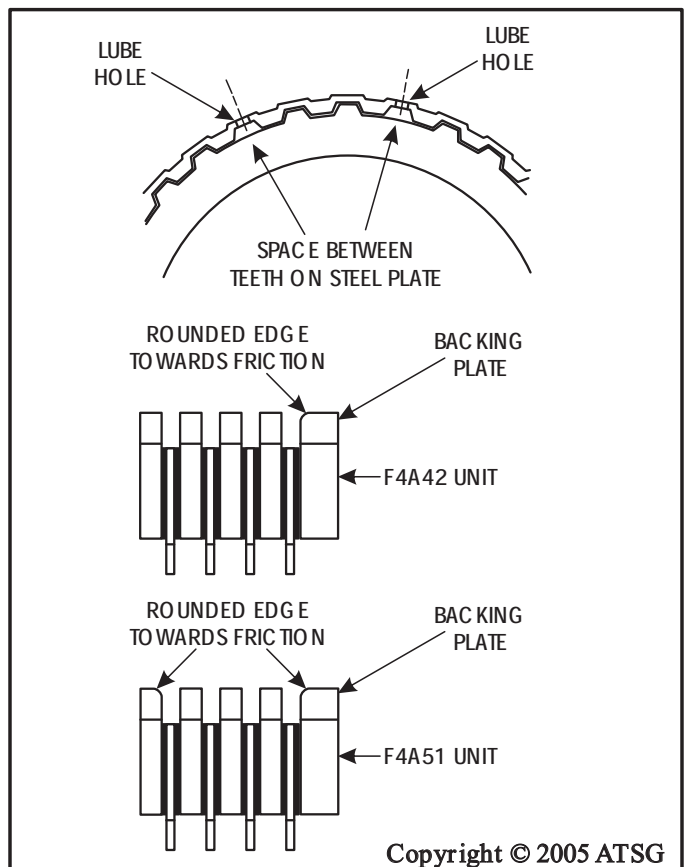

Figure 83
Note: *The F4A51 unit has an apply plate that is .160" thick and has a rounded edge that goes toward lined plate (See Figure 83).*
14. Install the apply plate so that the places with no teeth are aligned with the lube holes in the retainer, as shown in Figure 83.
Note: *Align the steel plates so that the places with no teeth are aligned with the lube holes in the retainer (See Figure 83). Friction plates should be soaked in ATF for 1 hour.*